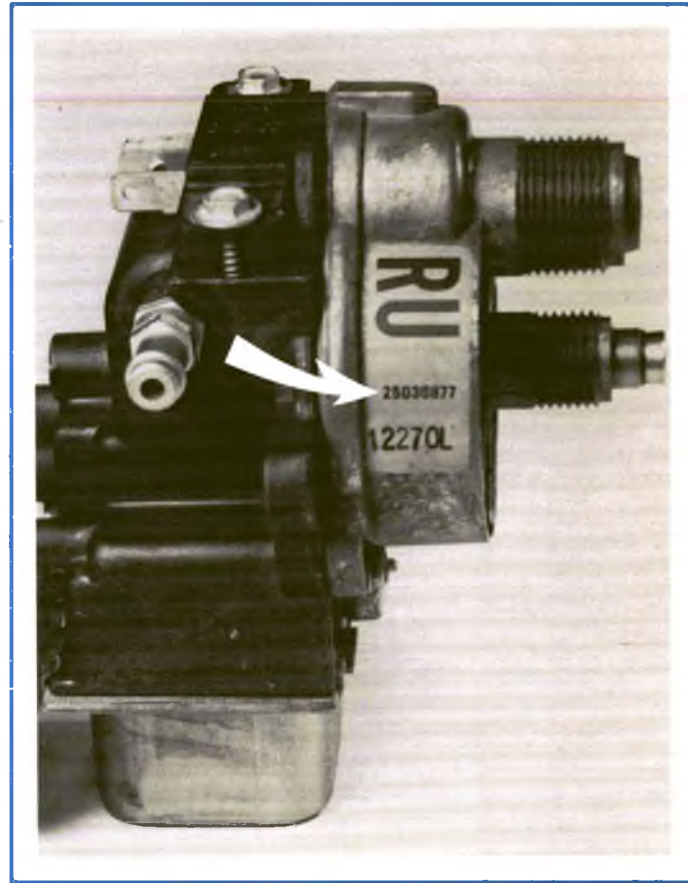

Figure 1-24, Check the Part Number for Vehicle Application.
- Step 3** Make sure the vehicle is equipped with the correct transducer and servo . . . check out the part number (figure 1-24).